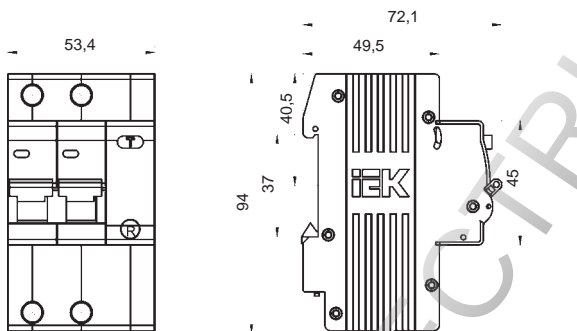

Figure 1. Overall and installation dimensions of AD12.
3.3 Overall and installation dimensions are shown in Figures 1 and 2.